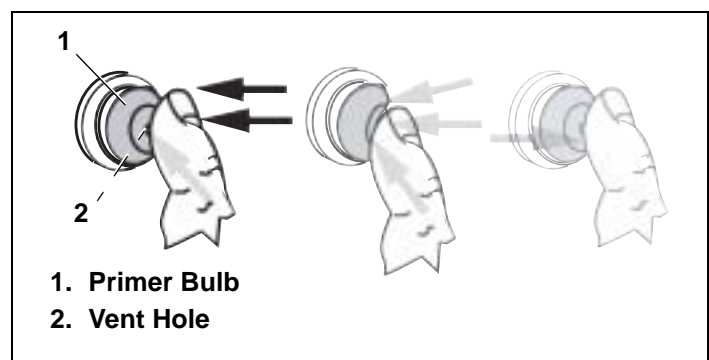

Figure 28. Pressing Primer Bulb
5. Hold the primer bulb in for one full second each time you press it. See Figure 28.